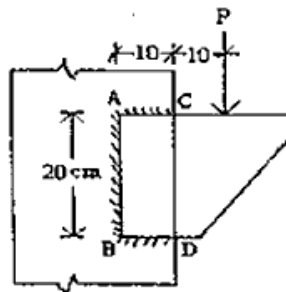

Fig. 1
- (b) Figure 1 shows an eccentric welded connection with 6 mm fillet welds. Determine the greatest load 'P' per bracket plate which can be applied on the connection if the shear stress in the weld is not to exceed 108 MPa. 12